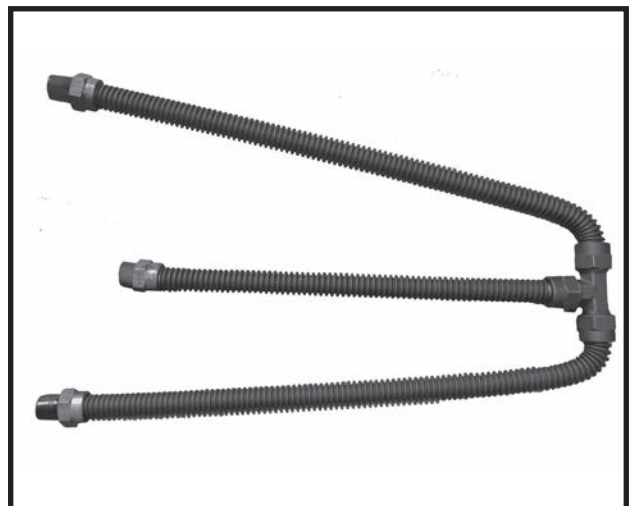
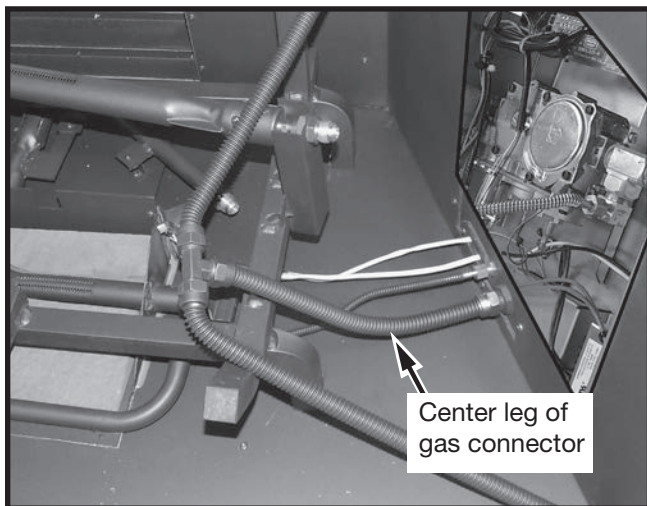
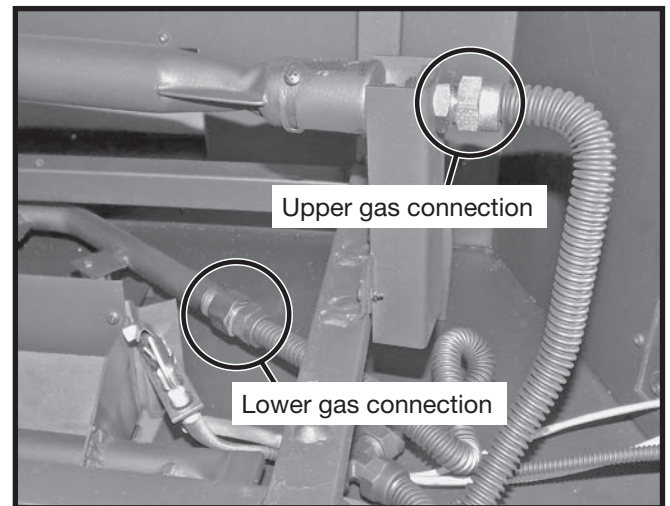

Figure 11: Gas connector.
Figure 12: Attaching gas connector to bulkhead fitting.
Figure 13: Gas connector to upper and lower burners.
7. The gas connector (Figure 11) will connect the upper and lower burners to the gas supply manifold. Begin by attaching the center leg of the connector to the gas fitting located onto the bulk-head (Figure 12). Continue by connecting the two remaining legs of the connector to the upper and lower burners (Figure 13). The fittings on the connectors use a 7/16" wrench.